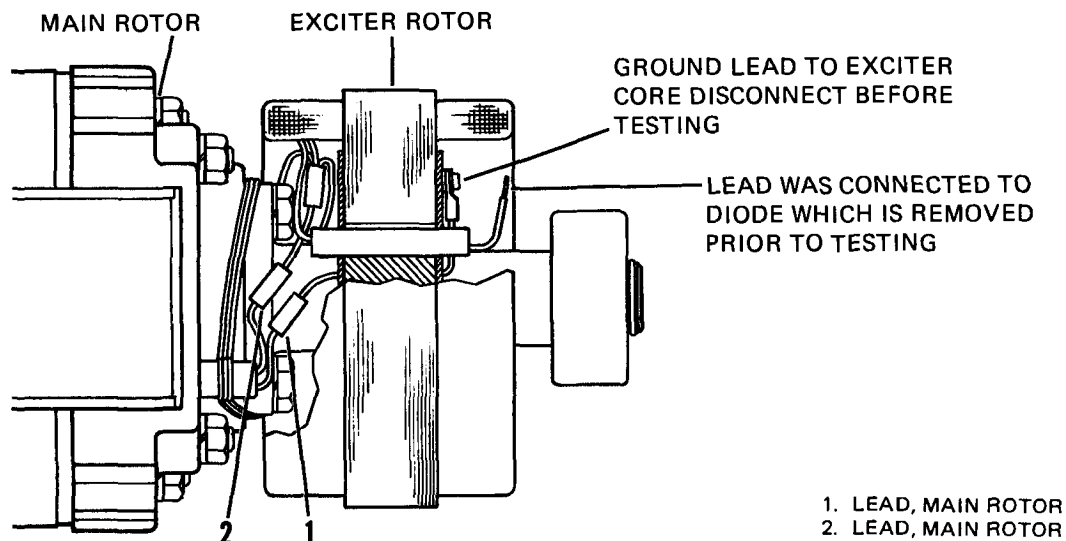

Figure 5-7. Main Rotor Winding Resistance Check.
- 2 Disconnect ground lead to exciter core (see Figure 5-7).
- 6 Remove the high-voltage lead (2) from the winding (3) and proceed with the tests of the remaining circuits to be tested. Make sure that all circuits not under test are securely grounded.
- (2) Test winding resistance.
- (b) Check the main rotor windings by connecting the multimeter across main rotor leads (1 and 2, Figure 5-7). Use sharp multimeter probes to penetrate wire insulating material.